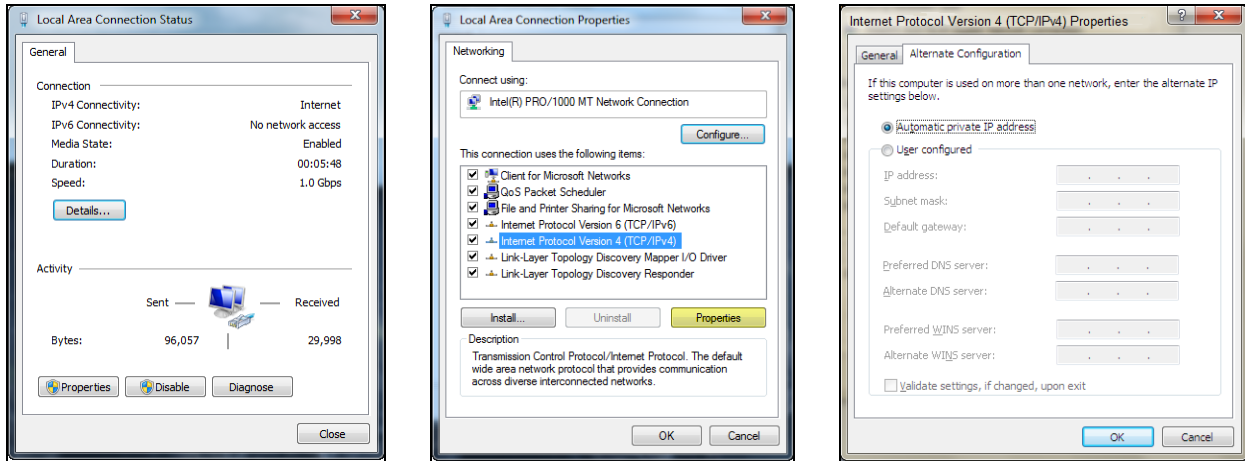

Figure 32: Windows – Local Area Connection Status [1], Local Area Connection Properties [2] and Internet protocol version 4 (TCP/IPv4) properties [3]
2. Enter **Local Area Connection** – status screen (**Figure 32 [1]**) is shown and subsequently **Properties**.
3. Mark **Internet protocol Version 4 (TCP/IPv4)** in the **Properties** window (**Figure 32 [2]**) and go to **Properties** again.
4. Open register **Alternate Configuration** in window (**Figure 32 [3]**) and enable the checkbox **User configured**.
5. Enter a user defined IP address for your PC. Consider that the network part of the address is identic to the network part of the IP address of the NetBox, thus **192.168.0**. For the host part use an address which is different from the one of the NetBox (100); e.g. **1**.